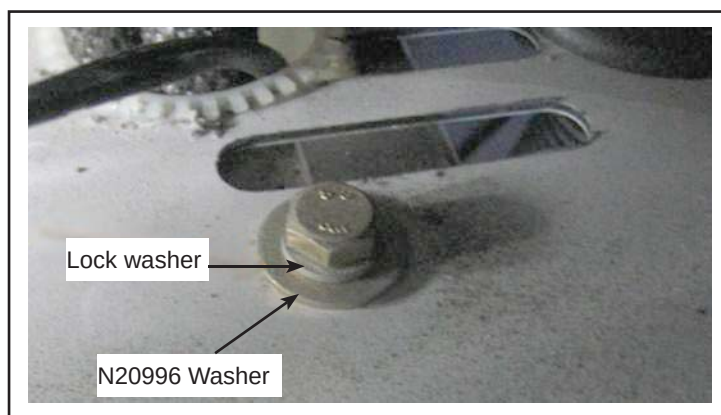

Figure 3 - New N20996 Washer Installation
- 1.5. Install the screw and lockwasher. Use the retained hardware. See Figure 3.